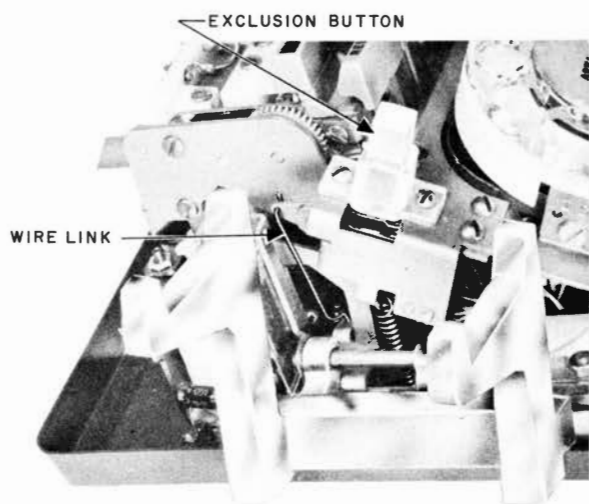

Fig. 3 - Exclusion Assembly
6. On sets with exclusion, start wire link from exclusion switch into hole on switchhook assembly. (See Fig. 3.)
5. Connect wire link to exclusion switch assembly by placing end of wire link having two 90-degree bends into hole provided in switch assembly. (See Fig. 3.)